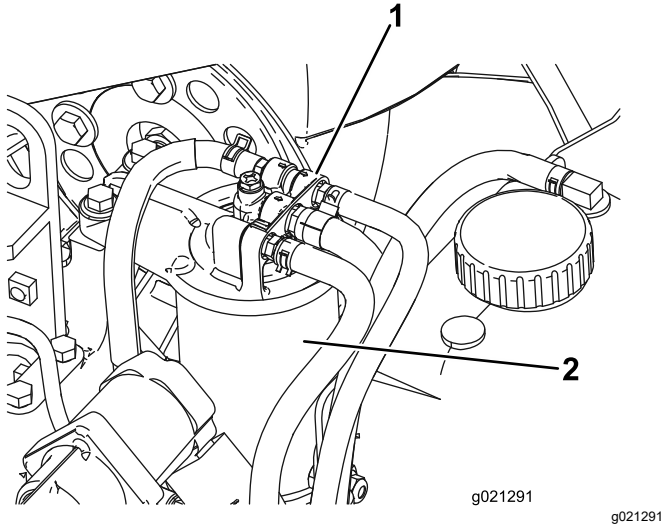

Figure 60
1. Clean the area around the fuel-filter head (Figure 60).
2. Remove the filter and clean the filter head mounting surface (Figure 60).